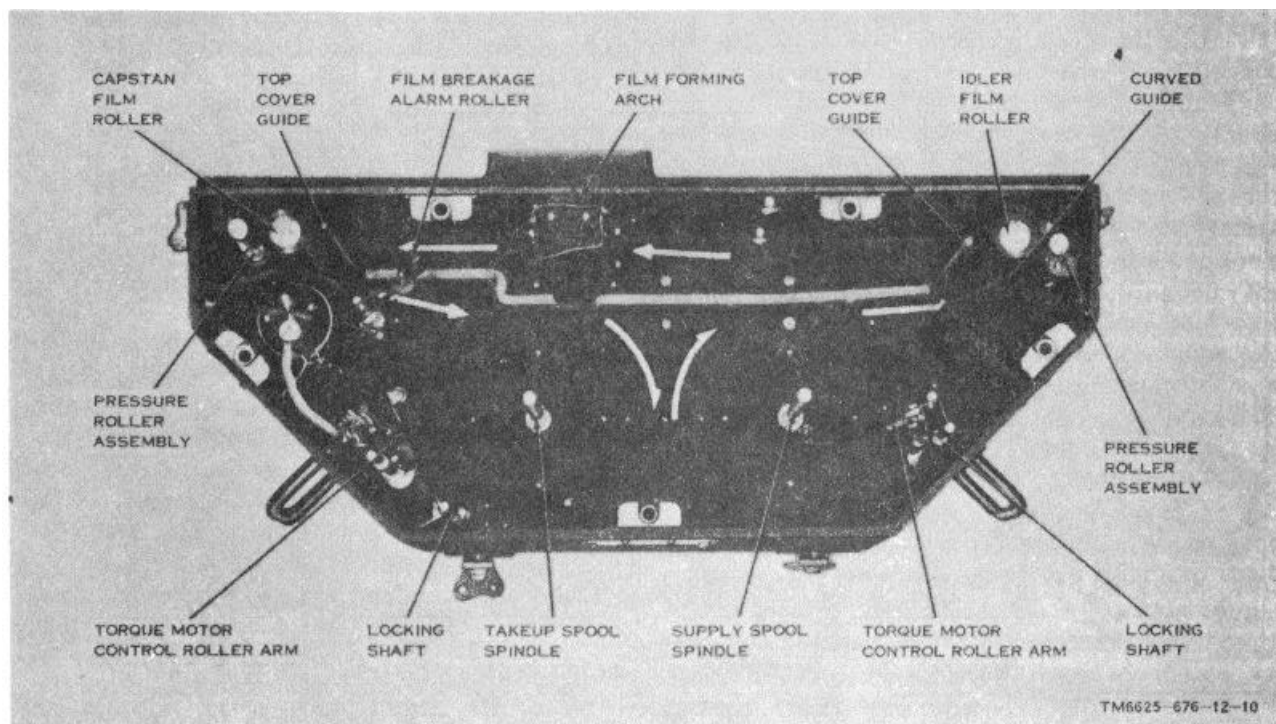
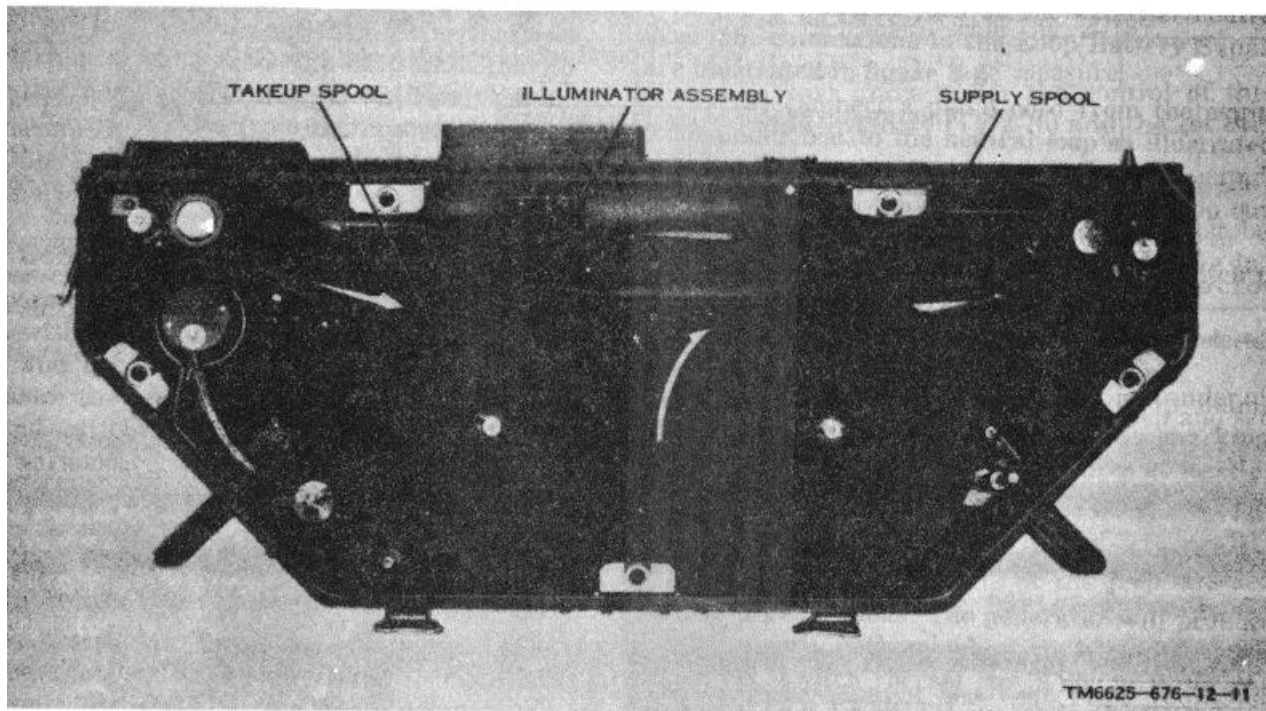

Figure 3-2. Magazine, ready for loading.
Figure 3-3. Magazine, loaded with test film.
Figure 3-2 is an internal view of the magazine ready for loading. The white arrows on the inside of the magazine indicate the direction of film travel through the magazine. Figure 3-3 illustrates a magazine loaded with film. Load the magazine as follows:
- c. Latch both torque motor control roller arms (fig. 3-2) in the open position; these roller arms will latch onto their respective locking shafts.
**Note.** The locking shafts will move up when the arm is in the open position. When the magazine cover is replaced, the locking shafts are pushed down and the torque motor control roller arms are released to rest on the test film on the takeup spool and supply spool (fig. 3-3).
d. Swing both pressure roller assemblies (fig. 3-2) away from the idler and capstan film rollers. Pull up while swinging the pressure roller assemblies to lock the rollers in the open position.
e. Place the loaded supply spool (fig. 3-3) on the supply spool spindle (fig. 3-2) and advance the test film from the supply spool along the curved guide to the idler film roller. Make sure the test film winds in the direction of the arrows in the magazine.
k. Position the top cover of the magazine over both top cover guides (fig. 3-2) and lower the cover into place. The pressure roller assemblies will be released when the top cover is attached to the magazine. Also, the locking shafts will be pressed down to release the torque motor control roller arms when the top cover is in position.